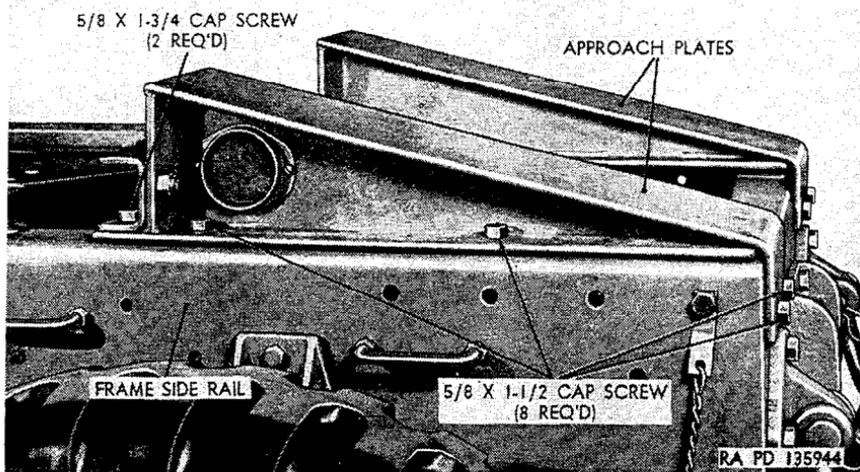

Figure 320. Left rear view of approach plate assembly M52.
- (1) Remove eight cap screws (fig. 320) and safety nuts and two cap screws and safety nuts securing approach plate assembly to frame side rails.
- (2) Lift approach plate assembly from vehicle.
- (1) Lift approach plate assembly into position on frame side rails (fig. 320), and aline mounting screw holes in approach plates and side rails.
- (2) Install two $\frac{5}{8}$ x $1\frac{3}{4}$ cap screws (fig. 320) and eight $\frac{5}{8}$ x $1\frac{1}{2}$ cap screws in holes in approach plates and side rails. Install 10 safety nuts on cap screws, and tighten.